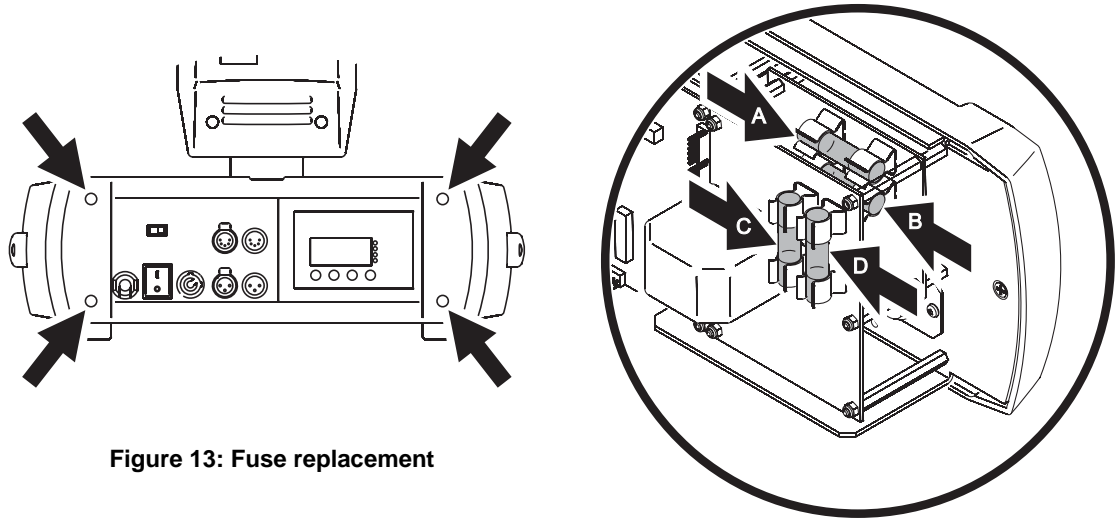

Figure 13: Fuse replacement
3. See Figure 13. Remove the four screws (arrowed) from the outer edges of the connections panel cover and pull the cover away from the fixture base for access to the PCBs.
4. See Figure 13. Fuses marked A and B protect the main power circuit. Fuses C and D protect the external dimmer lamp power circuit.